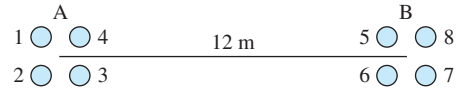

FIGURE P9.48 Single-phase, two-bundle asymmetrical transmission line.
9.48 (H)* A single-phase, 60-Hz transmission line is shown in Figure P9.48. Each subconductor's radius is 10 cm, and the distance between neighboring subconductors is 2 m ($D_{12} = D_{23} = D_{34} = D_{41} = D_{56} = D_{67} = D_{78} = D_{85} = 2 \text{ m}$). A